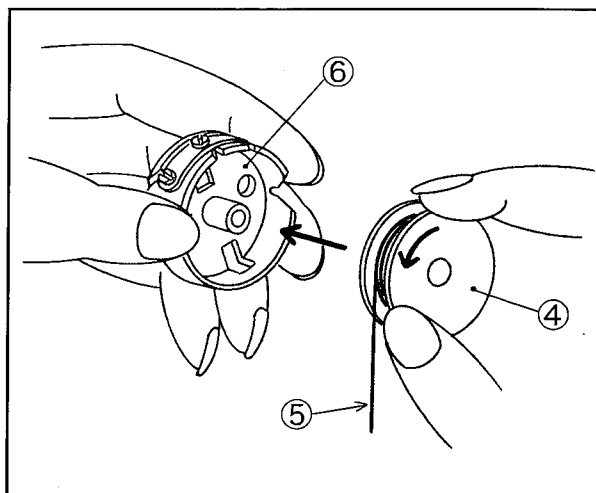

Fig.19
- (1) Pull out the thread ⑤ from the bobbin ④.
- (2) Put the bobbin ④ into the bobbin case ⑥ as shown in Fig.19.
- (3) Insert the thread that is pulled off in Step(1) into the crack ⑦ on the bobbin case ⑥ and pass it under the tension spring ⑧.
- (4) Insert the thread into the crack ⑨.
- (5) Pull out the thread through the hole A or B.